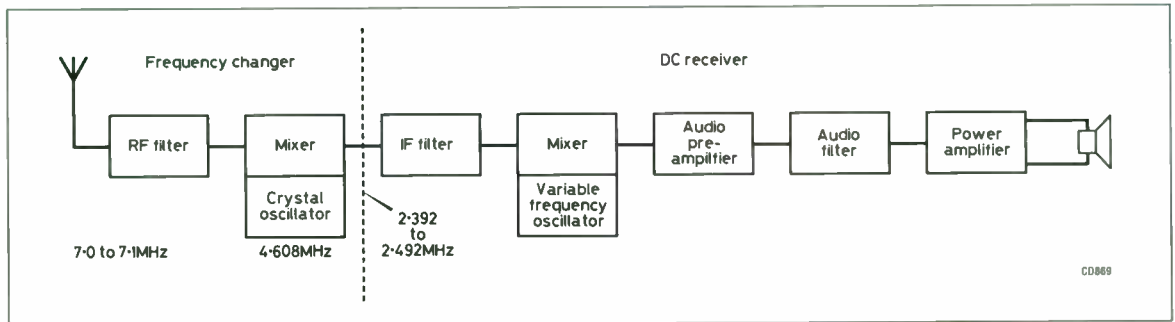

Fig 7.2. Simple block diagram of the Super 7
The design is different to all of the others so far described. It is a combination of a superheterodyne and a direct-conversion (DC) receiver. Fig 7.2 shows a block diagram of the receiver. The blocks to the left of the dotted line form the front end of a superheterodyne. The first mixer is fed from the antenna via a filter which can pass the narrow band of wanted signals and a fixed-frequency (crystal-controlled) oscillator operating at a frequency of 4.608MHz. The output of the first mixer will contain signals in the range 2.392 to 2.492, the difference between the input at 7.0 to 7.1 and the oscillator frequency
9. The varicap diode D1 is half of a KV1236. Lay the diode on a hard surface and cut along the groove with a sharp modelling knife. With the lettering upright and facing, the 0V lead is on the left. Refer to the inset in Fig 7.2 if there is any doubt. Fit so that the diode stands about 4mm above the surface of the PCB with the lettering facing R5. The crystal X1 should be fitted with similar clearance from the PCB. Take care with both components – the leads can easily break off!